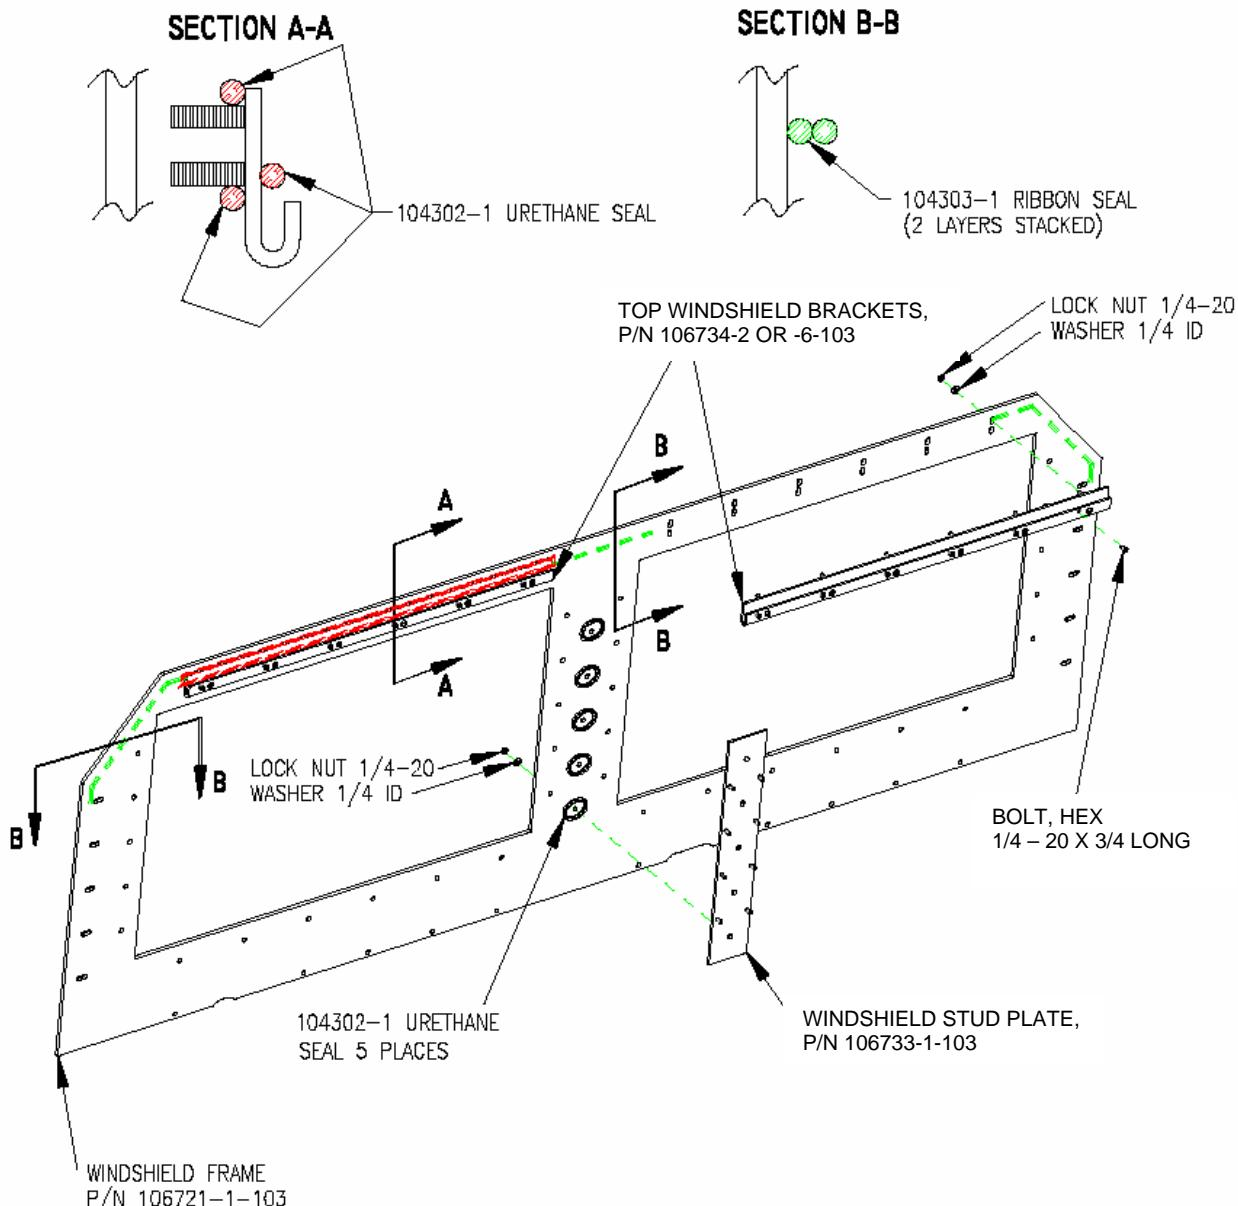

Figure 17. Windshield Frame pre-assembly.
- e) Attach the Top Windshield Brackets (P/N 106734-6-103) marked “**This Side Out**” to the **opposite** side of the Windshield Frame (P/N 106721-1-103) on the upper studs using twelve (12) 0.250-in. self-locking nuts and washers (see Figure 17). Verify that both brackets are parallel with the top edge of the windshield frame.
- f) Apply sealant (P/N 104302-1) to the windshield frame around the windshield stud plate mounting holes per Figure 17.
- g) Attach the Windshield Stud Plate, (P/N 106733-1-103) to the Windshield Frame using five (5) 0.250-in. self-locking screws and washers, as shown in Figure 17. Torque the nuts to 6 ft-lb.